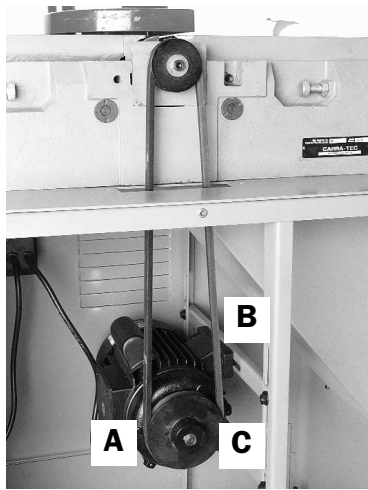

Fig. 1
Fix the motor pulley Fig. 1 (A) onto the motor shaft making sure the hub of the pulley is facing out. Insert key into the keyway of the pulley and motor shaft. Make sure you tighten the set screw Fig. 1 (C) with the allen wrench supplied.
Place the belt around the pulleys on the motor and the cutterhead. Using a straight edge on the face of both pulleys make sure they are in line. If adjustment is needed, the motor pulley can be moved forward or back on the motor shaft. An alternative is to loosen the screws on the motor mounting plate Fig. 1 (B) and shift the motor forward or back, be sure to tighten them again afterwards.